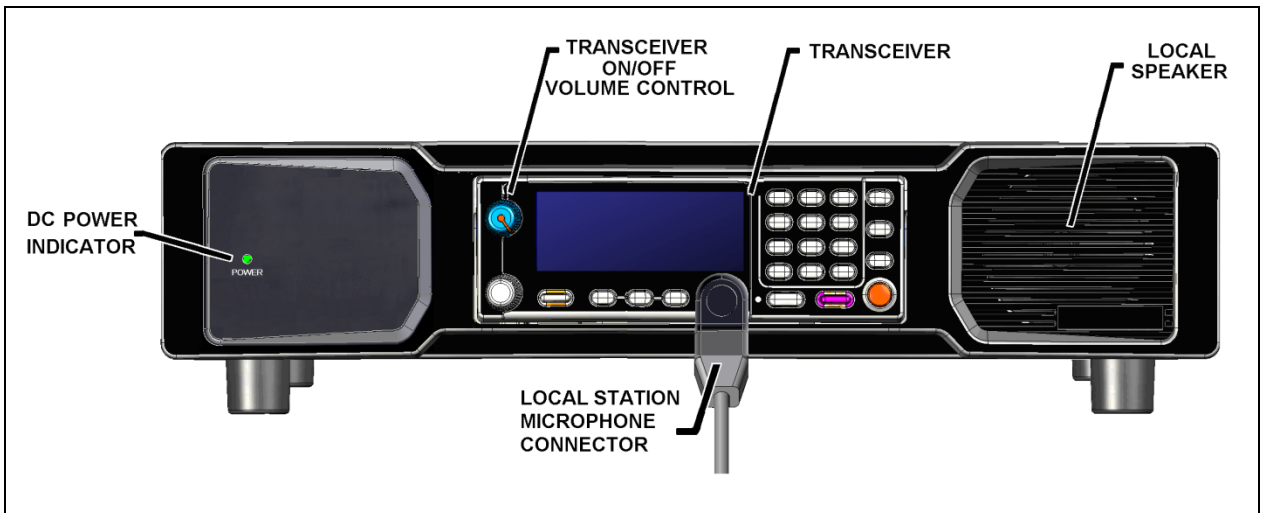

Figure 3-1: Front Panel Features – Local Control Station
The Local Control Station (shown in Figure 3-1), model CT-013892-001, includes front panel controls, indicators, and other features. The following are general descriptions of each feature.
The transceiver’s microphone connector shown in Figure 3-1 is used for local control stations. Refer to Section 3.2.1 when connecting a microphone to a remote control station.
3. Turn on the transceiver's ON/OFF Power switch (refer to Figure 3-1).